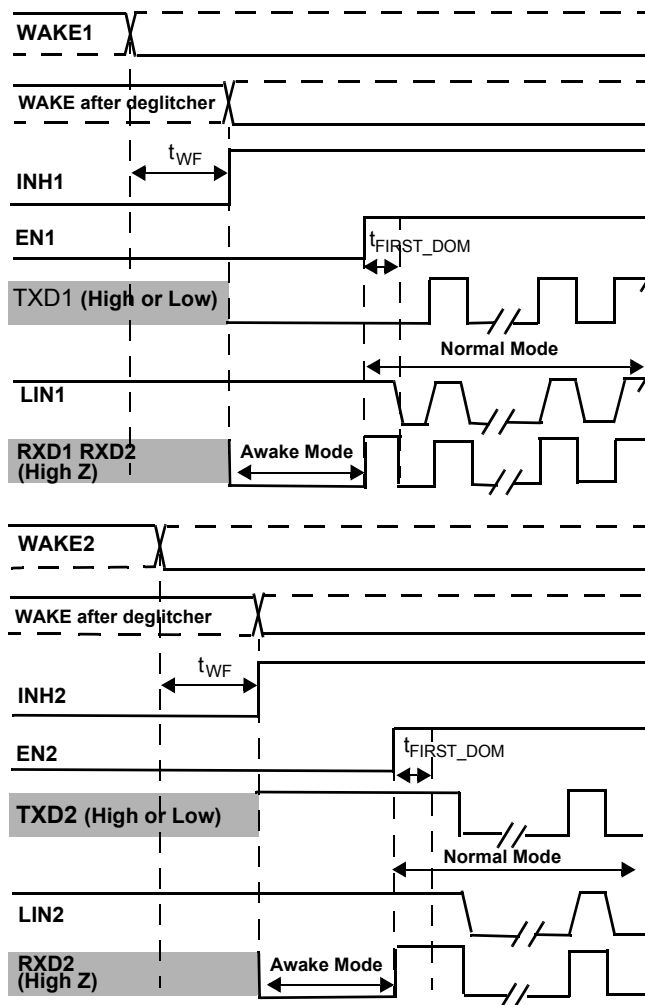

Figure 16. LIN Module 1 Wake1 Pin Wake-up with TXD1 Low & LIN Module 2 Wake2 Pin Wake-up with TXD2 High
27. See Figures 16, 22, and 23
An internal filter is implemented to avoid false wake-up event due to parasitic pulses (See Figure 16). WAKE1 (WAKE2) pin input structure exhibits a high-impedance, with extremely low input current when voltage at this pin is below 27 V. Two serial resistors should be inserted in order to limit the input current mainly during transient pulses and ESD. The total recommended resistor value is 33 k $\Omega$ . An external 10 to 100 nF capacitor is advised for better EMC and ESD performances.